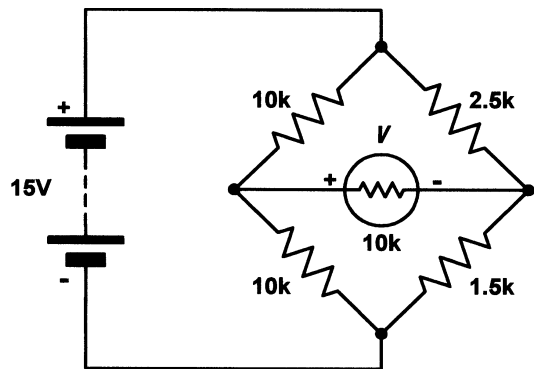

Figure A2.9
20. Determine the current flowing in the voltmeter movement shown in Fig. A2.9. [Page 50]